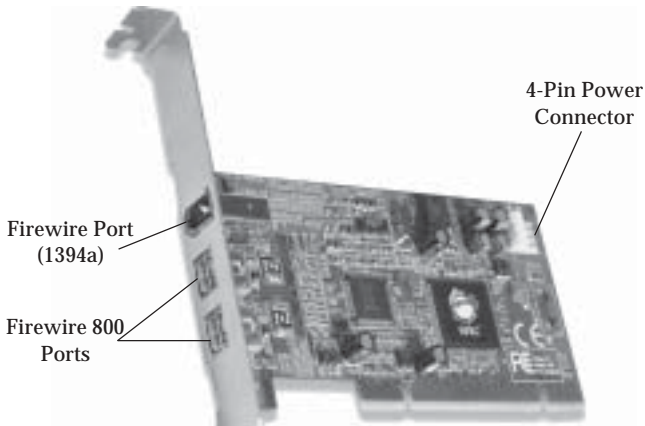

Figure 1. Board Layout
- Connect an available 4-pin power connector from the system power supply to the 4-pin power connector on the *FireWire 800 32-bit PCI* board (See figure 1). This connection is recommended for reliable power output.